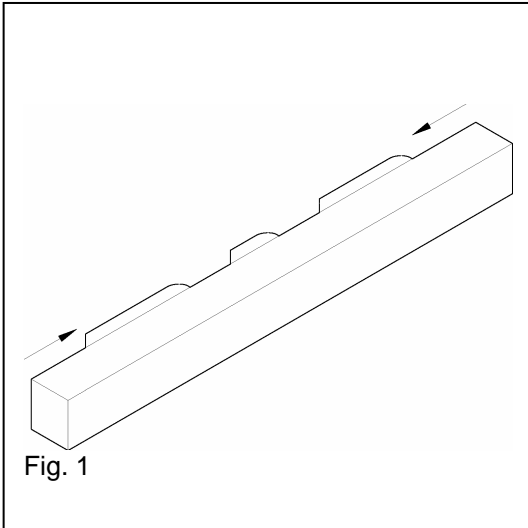

Fig. 1
1. To make the template, put the stile in the machine. For the top and bottom rails always start cutting from the end of the stile. Feed the section in by 5 mm at each cut (to prevent break out along the end grain). See fig. 1
5. When setting the last stop, make a few 5 mm cuts from the end and in (see fig. 1) (to prevent break out) before setting the stop and locking it.